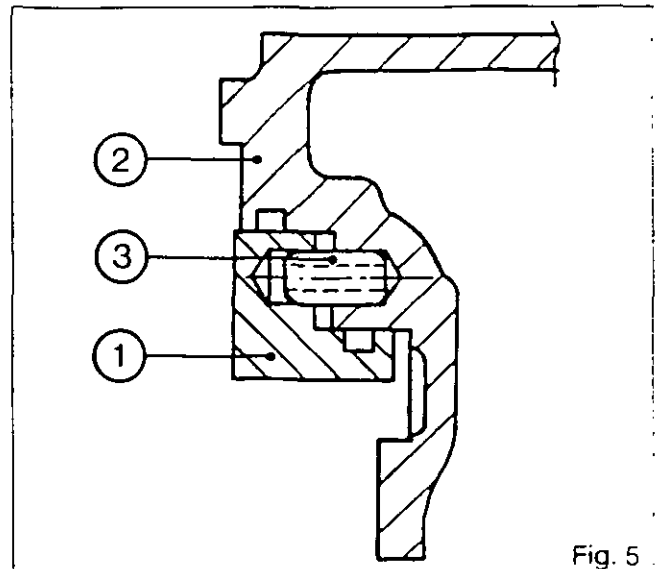

Fig. 5
- Fit the piston (1) without seals in the housing (2) (Fig. 5).
**Note:** Check that the piston slides freely in the bore of the housing and over the dowels (3) without binding (Fig. 5).